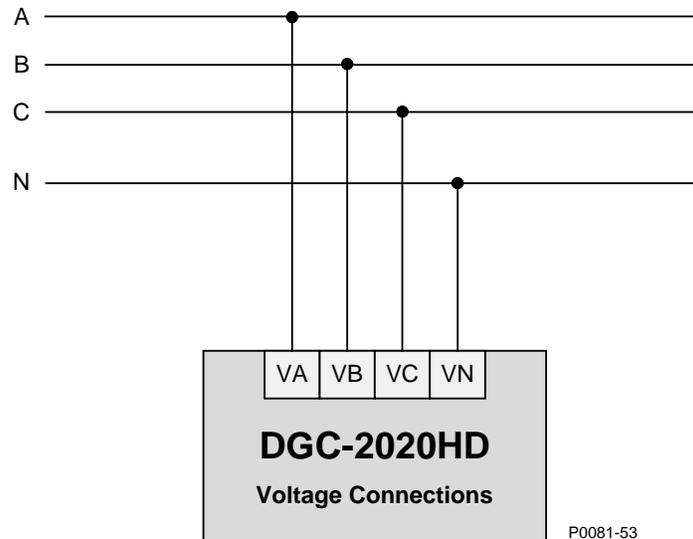

Figure 6. 3-Phase Wye Bus Voltage Sensing Connections
- Three-phase wye Figure 6
Although three-phase wye sensing connections are shown in the breaker control diagrams, other bus voltage sensing configurations (figures 6 through 9) may be used instead.
Figure 6 illustrates typical three-phase wye connections for all DGC-2020HD bus voltage sensing connections: Generator, Bus 1, and Bus 2. Use the terminal numbers listed below for connecting the desired bus type. Refer to the *Terminals and Connectors* chapter for rear panel terminal numbering.